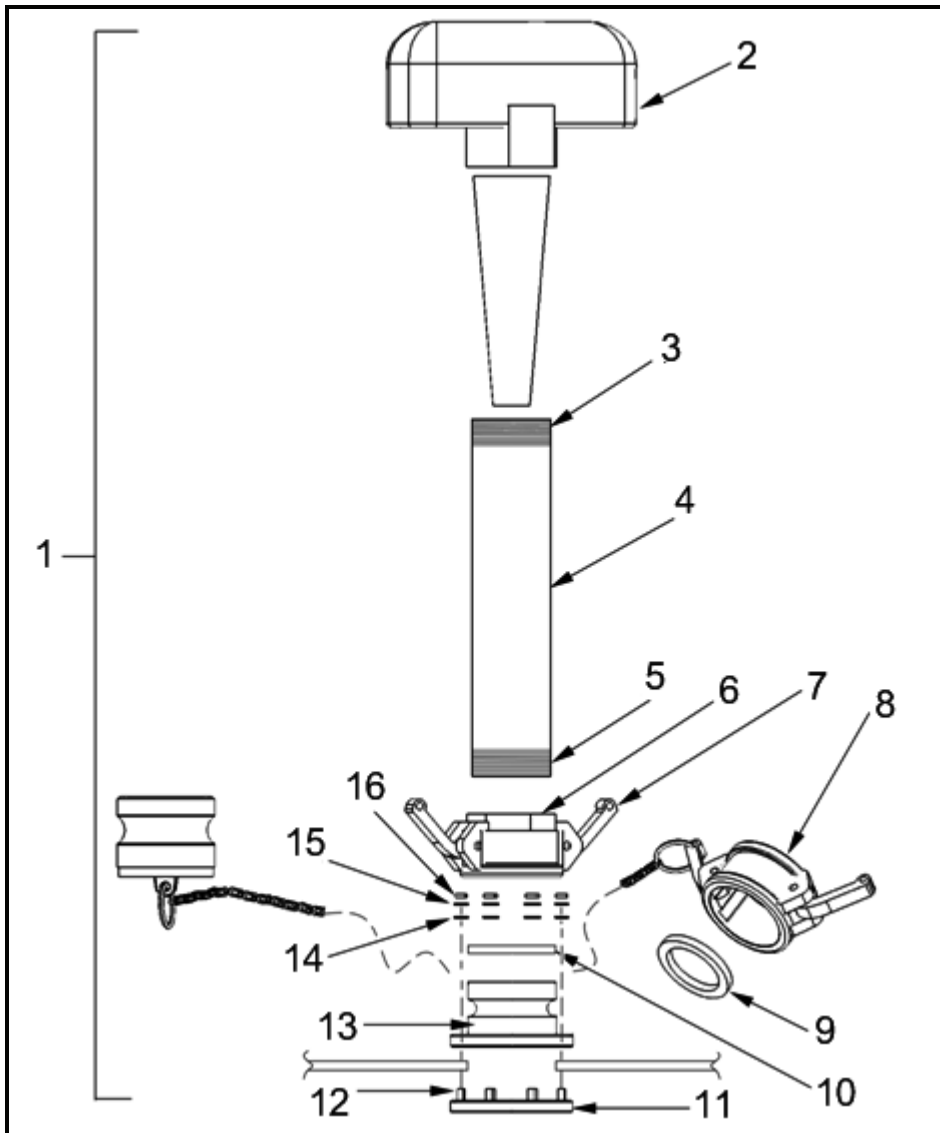

Figure 1. Vent Fitting Assembly
1. Remove eight nuts (Figure 1, Item 16), lock washers (Figure 1, Item 15), and washers (Figure 1, Item 14) from vent fitting assembly (Figure 1, Item 1).
2. Lift male flanged adapter (Figure 1, Item 13) from compression ring (Figure 1, Item 11).
1. Remove female cam lock coupling (Figure 1, Item 6) from male flanged adapter (Figure 1, Item 13) by pulling outward on cam lever arms (Figure 1, Item 7) and lifting female cam lock coupling from male flanged adapter.
2. Remove gasket (Figure 1, Item 10) from female cam lock coupling (Figure 1, Item 6). Discard gasket.
3. Unscrew vent pipe (Figure 1, Item 4) from female cam lock coupling (Figure 1, Item 6) and remove female cam lock coupling from vent pipe.
4. Unscrew passive vent (Figure 1, Item 2) from vent pipe (Figure 1, Item 4) and remove passive vent from vent pipe.
5. Remove gasket (Figure 1, Item 9) from inside dust cap (Figure 1, Item 8). Discard gasket.
1. Apply anti-seizing tape to the threaded ends (Figure 1, Items 3 & 5) of vent pipe (Figure 1, Item 4).
2. Screw passive vent (Figure 1, Item 2) on to vent pipe (Figure 1, Item 4). Tighten until threads are firmly seated.
3. Install vent pipe (Figure 1, Item 4) into female cam lock coupling (Figure 1, Item 6). Screw threaded end (Figure 1, Item 5) of vent pipe into female cam lock coupling and tighten until threads are firmly seated.
4. Install new gasket (Figure 1, Item 10) into female cam lock coupling (Figure 1, Item 6).
5. Install female cam lock coupling (Figure 1, Item 6) on to male flanged adapter (Figure 1, Item 13). Lock in place by pushing in on cam lever arms (Figure 1, Item 7).
6. Install new gasket (Figure 1, Item 9) in dust cap (Figure 1, Item 8).